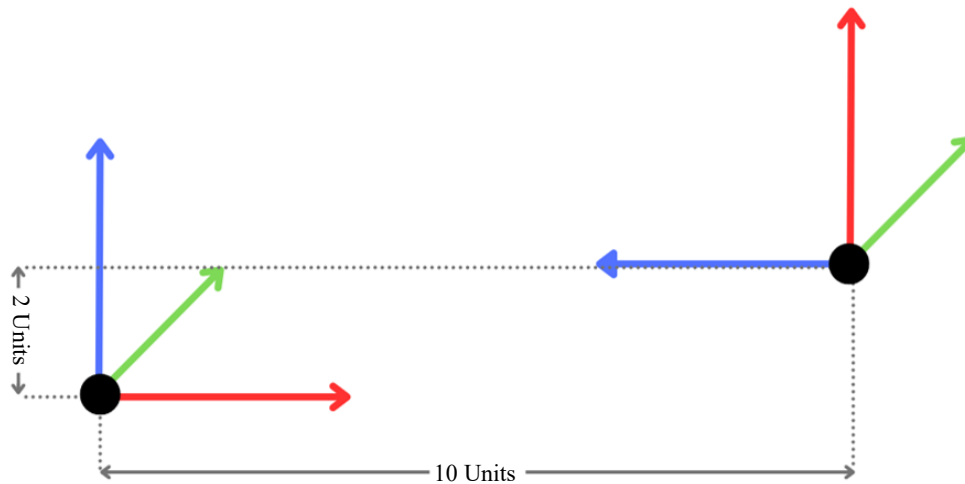

Figure 8. An example of transformation.
2. *Dynamic*: These allow for relative movement in one dimension, but multi-degree-of-freedom transforms are also allowed. (Figure 8)